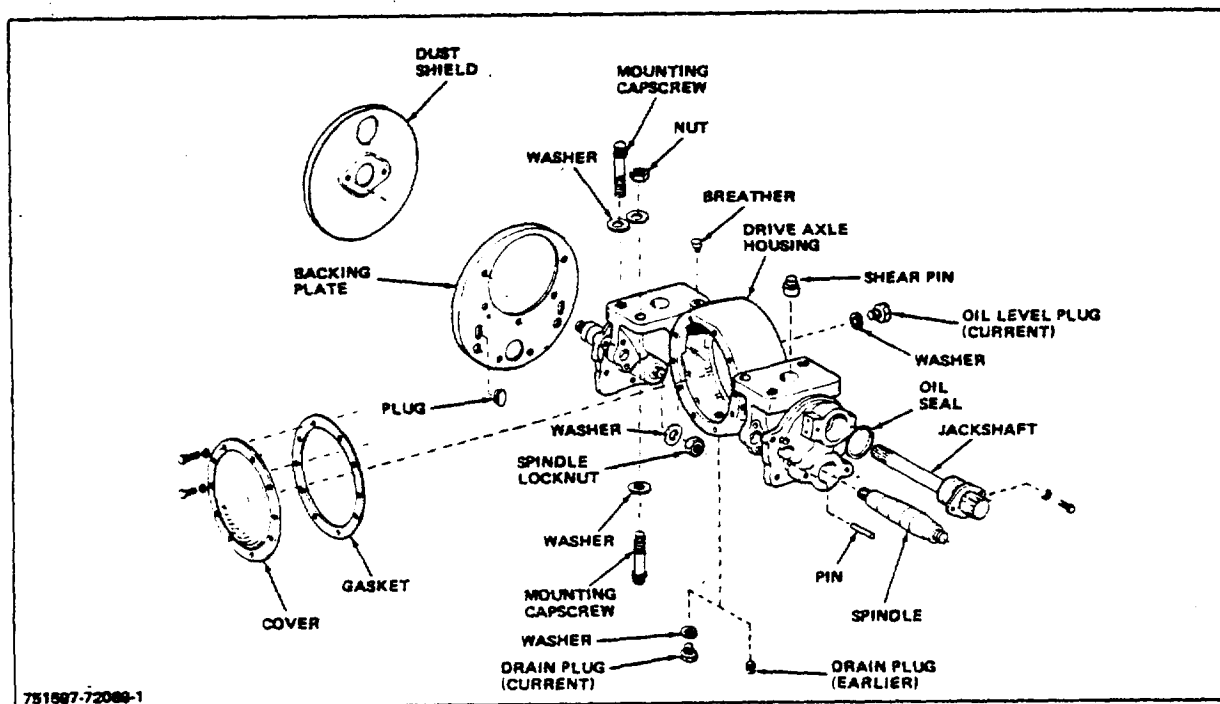

Figure 2-5. Drive Axle Housing Assembly (ACE 35 thru 55)
4. Use a seal driver, and install a new oil seal (Fig 2-5) in the drive axle housing.
3. Remove locknut and washer from spindle at back of drive housing (Fig 2-5).